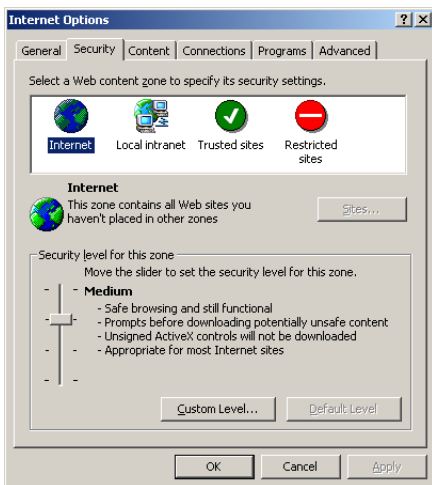

Figure 3-3 Default Internet Security Options
4. Select the Security tab on the Internet Options window. Refer to Figure 3-3.